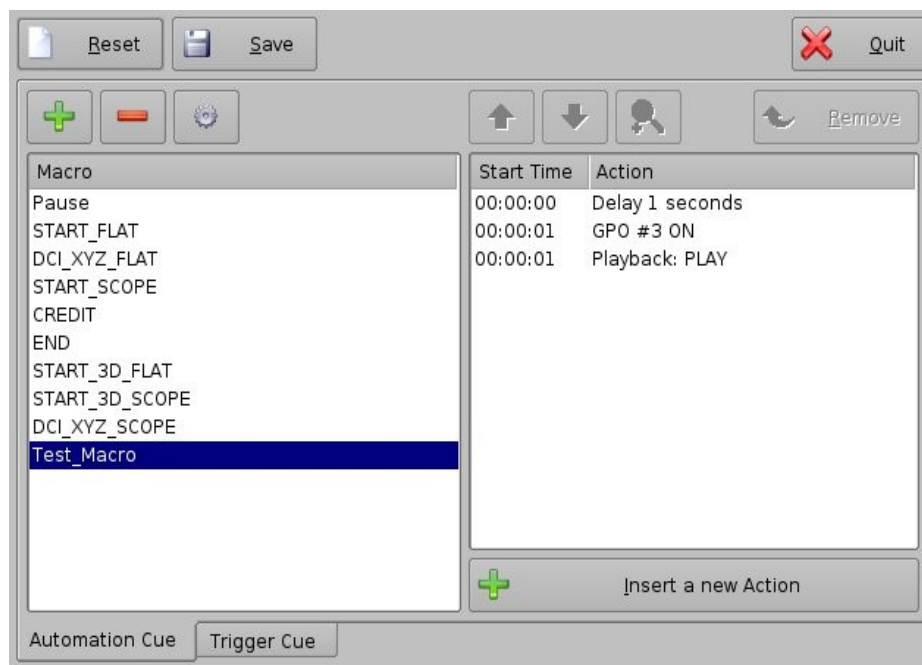

Figure 192: Macro Actions Window Updated
The two arrows allow the user to change the order of the actions in the Macro Automation Cue (Figure 192). Using the arrows, each action can be moved to the top or to the bottom of the Macro Actions window.
The user can edit an action of any given Macro Automation Cue by selecting it. The user can also click on the Edit Action button illustrated in Figure 192. The user will be able to edit the properties and set the action when added to the Macro Automation Cue.
- To remove an action from the list of actions associated to a Macro Automation Cue, select the action in the Macro Actions window and click the Remove button (Figure 192)